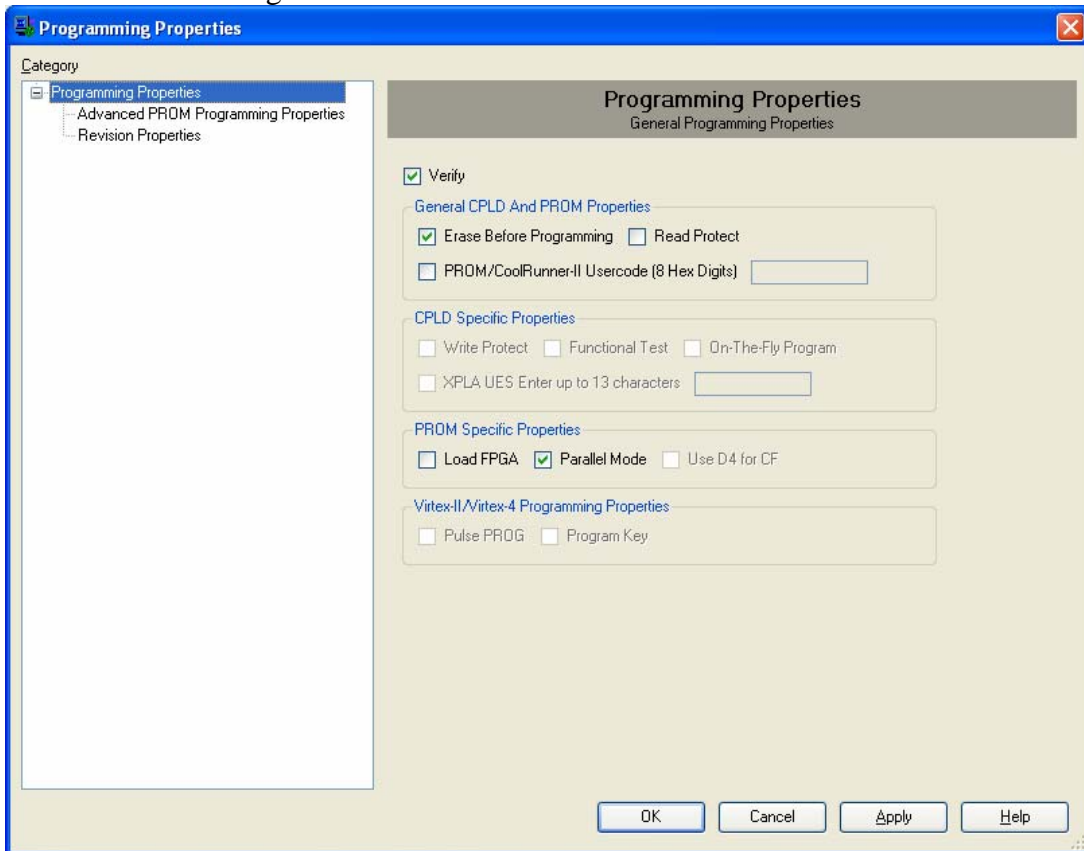

Figure 3: Programming Properties
- Right Click the XCF32P Prom and select 'Program'. iMPACT brings up a window which allows you to decide which revisions are to be programmed. On the main page, in the 'Program Properties' Dialog, the 'PROM Specific Properties' are set to 'Parallel Mode'. This is shown in Figure 3.